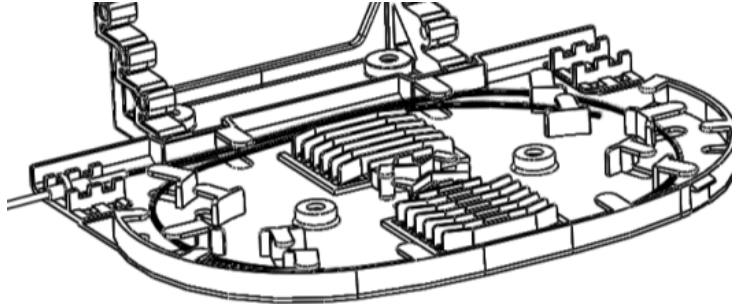

Figure 22
- 1.5.9 Route the fibers in the tray and cut off the excess plastic clamp (Fig.22);